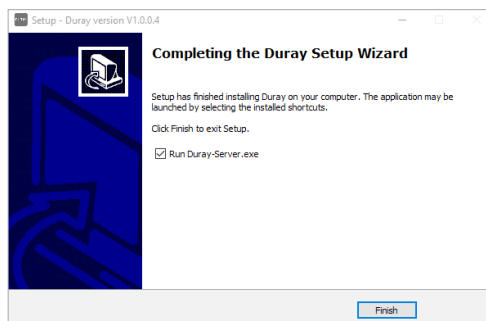

Figure 10
h) After the software is installed, click the “Finish” button, as shown in Figure 10: